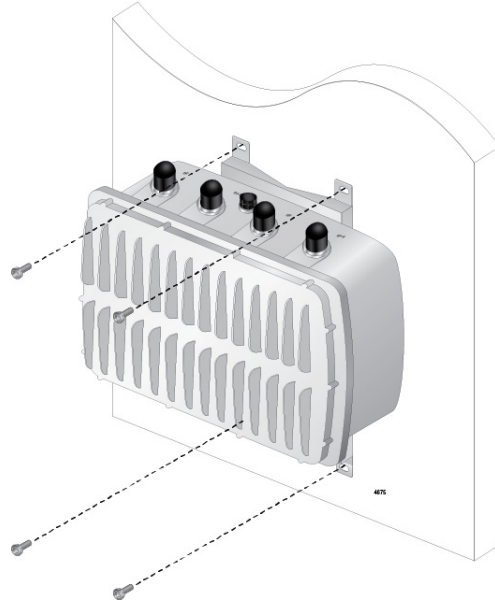

Figure 15. Installing to the Wall Using Bolts
7. Attach the nuts and washers to the bolts in the wall to install the access point unit. See Figure 15.